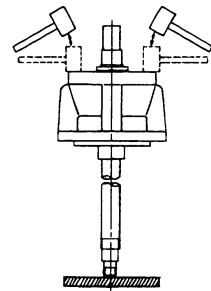

Fig. 4
- (10) Remove fan key ②②.
- (11) Remove bearing box ⑤ from fan case (A) ④. At this time, shaft ①⑦ should come off together with bearing box ⑤.
- (12) Remove cap ⑥.
- (13) Lay a wood-block on the floor, and stand shaft ①⑦ on top of-it in an upright position. (Fig.4)
- (14) Remove bearing box ⑤ from bearing ①⑤ by tapping outside uniformly with plastic hammer.
- (15) Remove bearing nut ①③ and bearing washer ①④.
- (16) Remove bearing ①⑤ from the shaft ①⑦ using a puller.